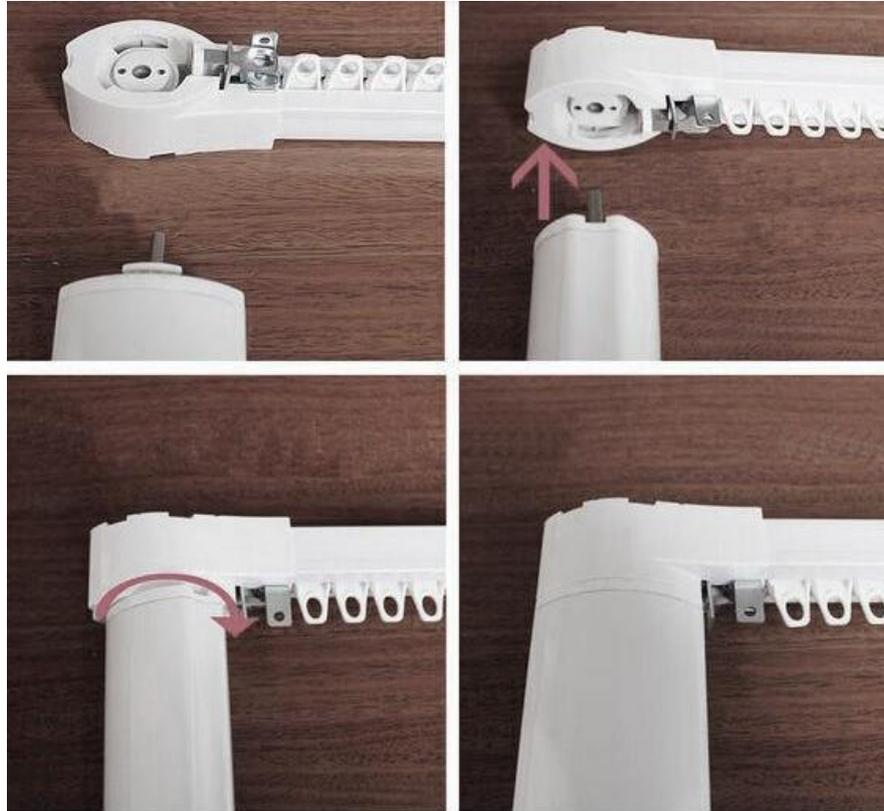

Fig.2
2) As shown in Fig.2, please connect the curtain motor and curtain track in accordance with the following instructions.